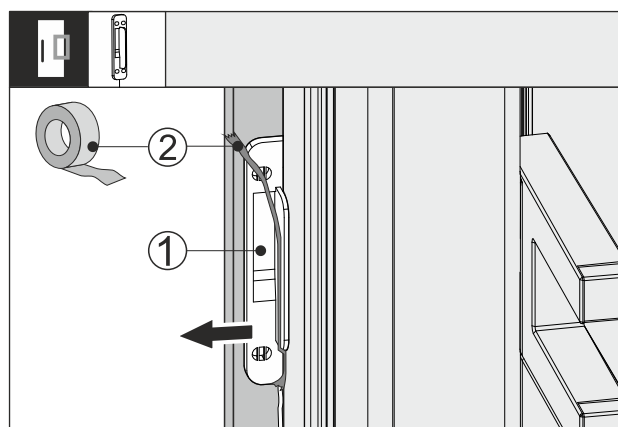

Fig. 64
- Remove the adhesive tape Fig. 64 (2) from the knocking sensor Fig. 64 (1).